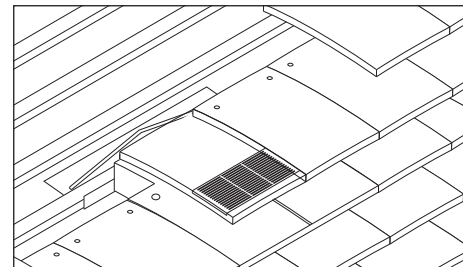

Fig. 3 – Fix contour tile vent
- 6 Insert tile unit and mechanically fix using screws provided (Fig. 3).